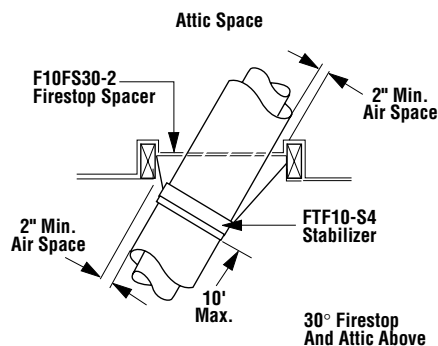
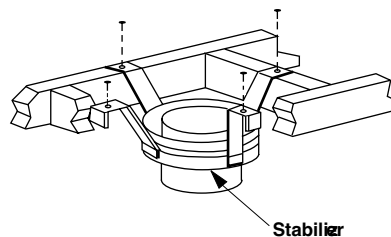

Figure 22
Figure 27
It may be necessary to assemble the chimney at 30° when passing through the floor or ceiling area. Use the F10FS30-2 firestop spacer as shown in Figures 22 and 23. Support the chimney at floor or ceiling penetration with a FTF10-S4 stabilizer if distance of chimney below ceiling is 10' or more. Maintain 2" minimum air space to combustibles from chimney sections.
Install the Model FTF13-S4 stabilizer by fitting inner section down into respective section of proceeding flue pipe and locking outer stabilizer section into place over the outer chimney pipe. Position for proper clearance through framed opening and nail straps securely (under tension in "shear") into place on framing. Use 8d nails. Attach successive lengths of chimney pipe directly to stabilizer using same techniques as described in Step 4 (Figure 27).
Step 1. Use Offset Chart to determine amount of horizontal offset (A) and height (B) for various chimney section assemblies.
Step 3. Use Elevation Chart as job estimator only. Add necessary firestop spacers and stabilizers as required. Firestop spacers must be used as shown in Figures 22 and 23 and stabilizers as shown in Figure 27.